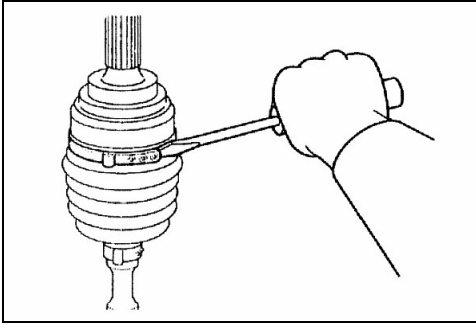

Fig.12-32
- ① Remove the R.J. boot bands (large and small).
- ② Remove the R.J. boot.
- ③ Wrap a plastic tape around the shaft spline, and assemble the R.J. boot band and B.J. boot.(see Fig.12-32)。